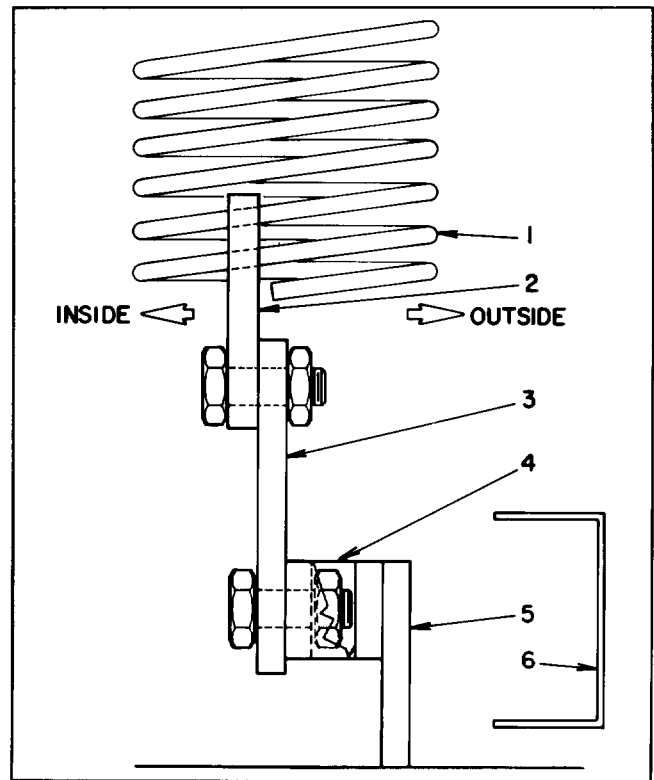

Figure 8
**IMPORTANT:** The knee link bracket(s) must be positioned to the inside of the deck bracket(s), and the spring end plate(s) must be positioned to the inside of the knee link bracket(s) (Fig. 8).